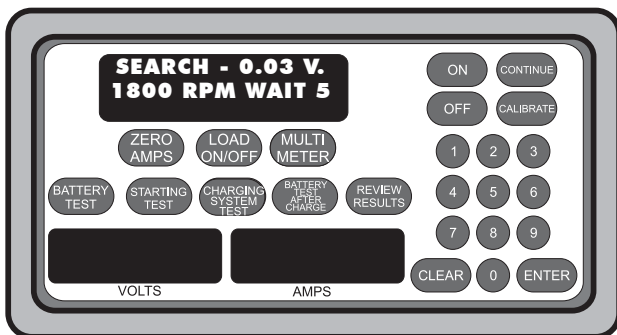

Figure 24
3. After the load is released, there is an automatic cool down period lasting as long as the load period. The display reads "WAIT" and counts down to zero (see Figure 24). At zero, the multimeter display returns.